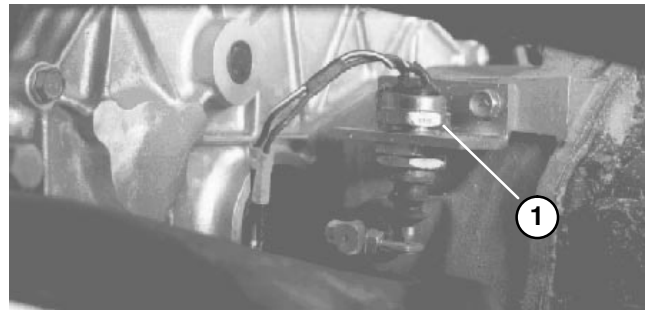

Figure 50
7. Recheck clutch safety switch adjustment (Fig. 50). Engine must not crank unless clutch pedal is $1.25'' \pm .25''$ from floor. If an adjustment is required, loosen switch jam nuts and adjust up or down.